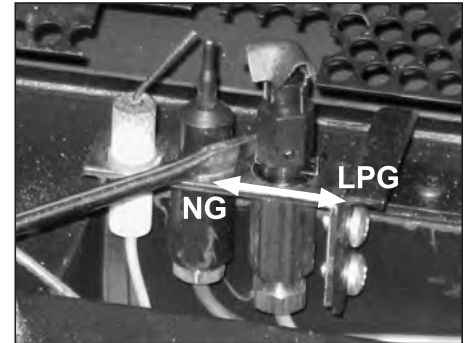

Figure 24: Setting Regulator gas type to LP.
b) Push the slider, with your finger or flat head screwdriver, to the left if it is to be set for natural gas or to the right for propane (see to Figure 24).